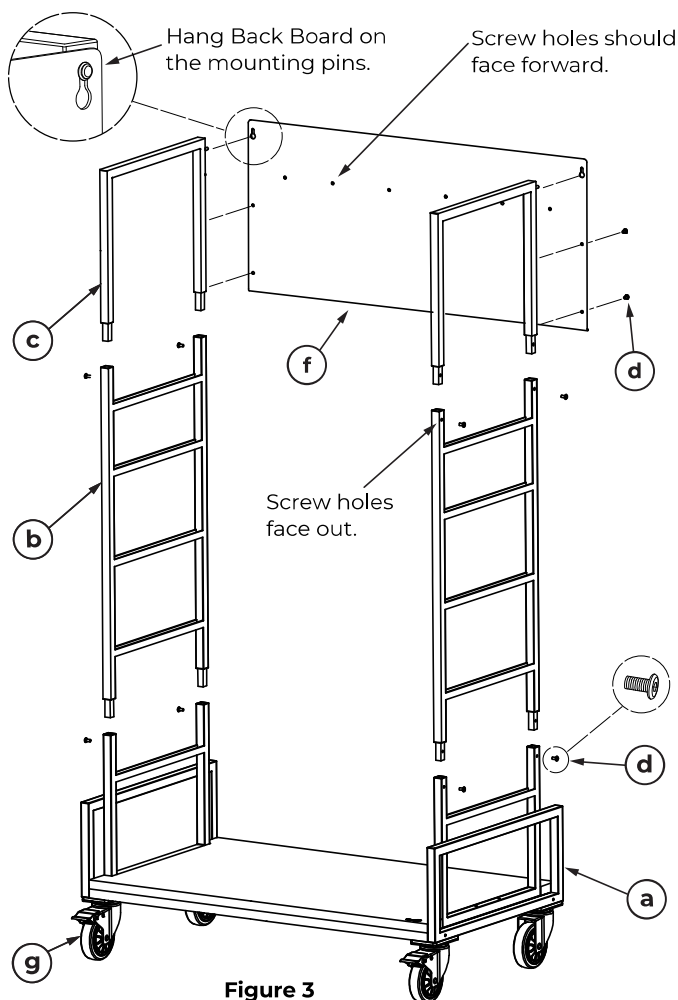

Figure 3
- Place the Base Assembly (a) upright on a flat surface. Lock the front Casters (g). Insert both Center Frames (b) into the Base Assembly (a). Install two (2) Allen Screws (d) at the bottom of both the left and right Center Frames as shown in Figure 3. The screw holes face outwards.
- Insert both Upper Frames (c) into the holes in the Center Frames (b). Install two (2) Allen Screws (d) at the top of both the left and right center frames. The mounting pins on the Upper Frames should be facing towards the back.